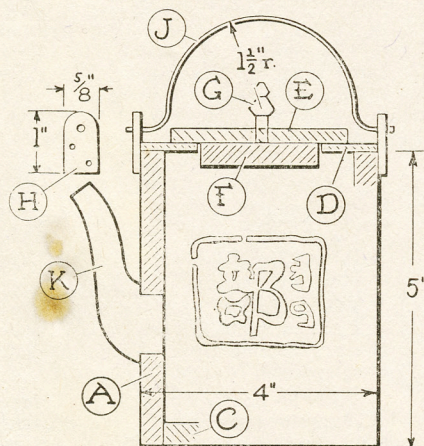

Fig. 2—Section showing parts
First cut two sides (A) of 5in. by 3½in. by ¾in. solid wood, and two other sides (B) of 5in. by 4in. by ¾in. stuff. Odd pieces of different kinds of wood can be used as they are afterwards painted. These four sides can be nailed up to form a carcase 5in. high and 4in. square. A base (C), 3½in. square by ¾in. thick is added. Before nailing up, however, a slot for the spout (K) is cut in one side. More of this in a moment. A section of the whole thing is seen in Fig. 2.
in Fig. 2. To avoid confusion of the drawing, the characters are shown in outline, but in actual practice they are done in solid black.